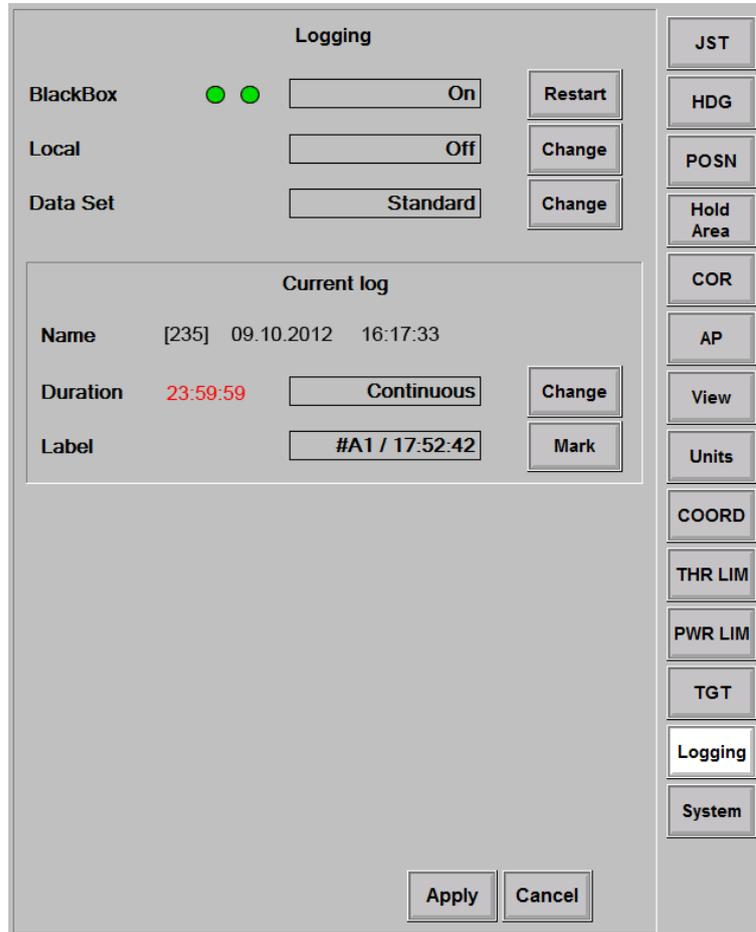

Figure H.2: The Logging Tab
Logging parameters are controlled through the Operator Station application / Param View / Logging tab (see figure H.2).
2.1. The record status is displayed in the entry field in the “BlackBox” mode (see figure H.2):
In case local logging is off, the DLS information is displayed (see figure H.2).